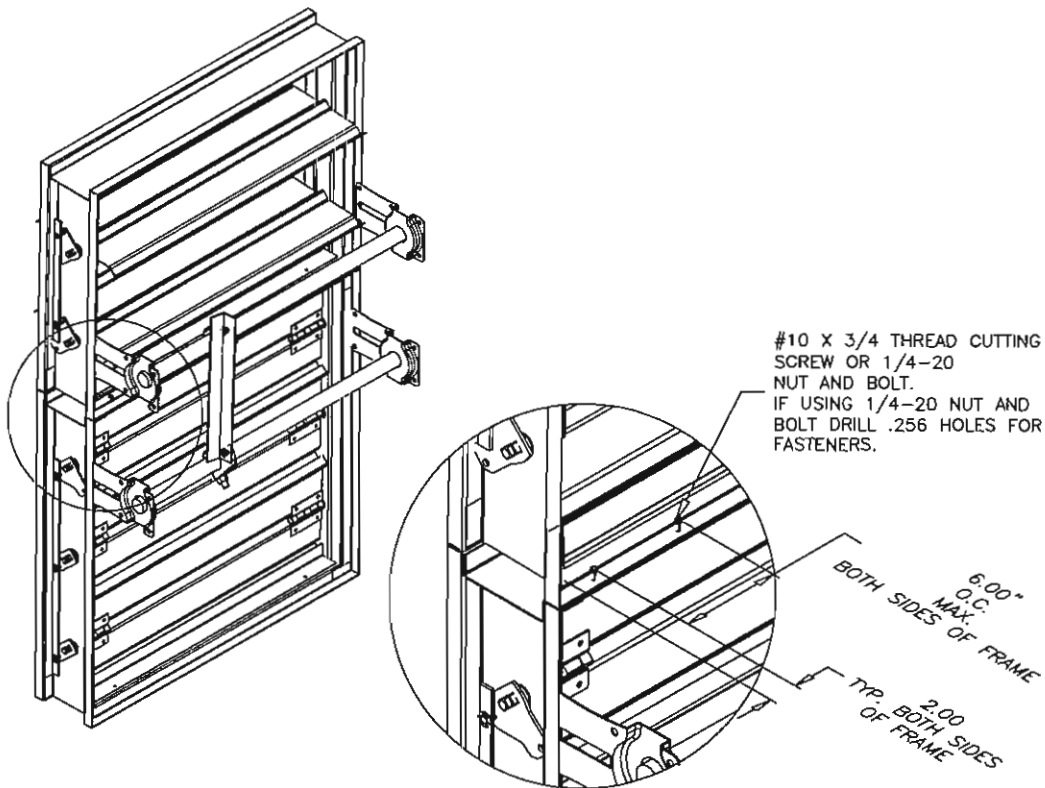

Figure 3
- When the height of a Face & Bypass vertical style (FBV) is greater than 84 in. (2134mm), the damper sections are shipped separate and field assembly is required. Before fastening damper sections together, the non-actuated damper section will need to be flipped upside down so that the linkage is on the same side as the actuated damper. After damper sections are fastened together, attach interconnecting angle as shown in **Figure 3**. (Interconnecting angle is shipped with actuated damper section.)